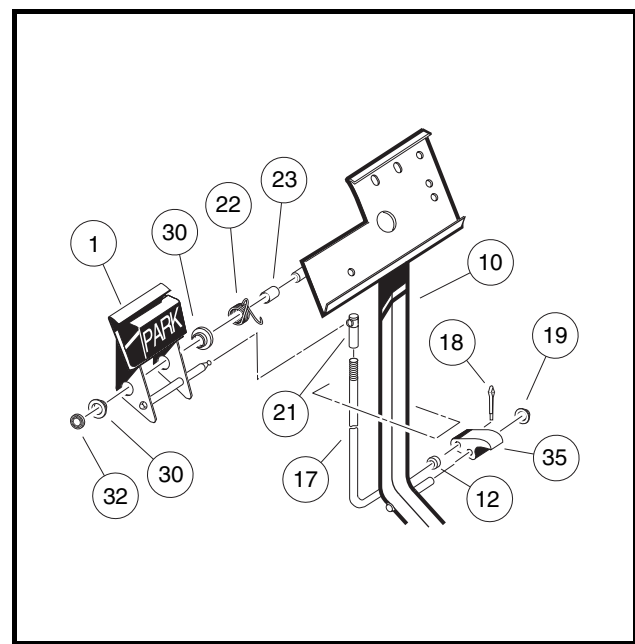
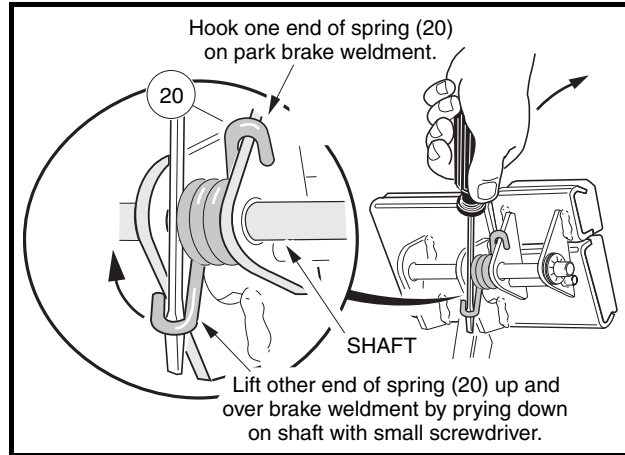

Figure 5-4 Park Brake Assembly
Figure 5-5 Torsion Spring Installation
**NOTE:** New push nuts (19) and (32) must be used when reassembling the park brake **(Figure 5-4, Page 5-4)**
- 3.2. To remove the park brake pedal (1), remove the push retainer nut (32), disconnect the torsion spring (22) **(Figure 5-4, Page 5-4)** and slide the pedal off of the shaft. **See preceding NOTE.**
1. From the bottom side of the floorboard, insert the park brake rod (17) through the brake pedal assembly opening as shown **(Figure 5-4, Page 5-4)**. Then install the park brake pawl (35) onto the shaft on the brake pedal assembly (10) and also insert the park brake rod (17) into the park brake pawl.
2. Install the push nut (19) on to the park brake pawl shaft.
3. Install the spacer (23) and torsion spring (22) on the park brake pedal shaft on the brake pedal assembly.
4. Install the two bushings (30) in the park brake pedal and position the park brake pedal on the shaft on the brake pedal assembly weldment (10) **(Figure 5-4, Page 5-4)**. Then attach the ends of the torsion spring to the park brake pedal and to the brake pedal weldment as shown **(Figure 5-5, Page 5-6)**.
5. Install the push nut (32) on the park brake pedal shaft **(Figure 5-4, Page 5-4)**.
6. Connect park brake rod (17) with ball joint (21) to the ball stud on the park brake pedal assembly **(Figure 5-4, Page 5-4)**.